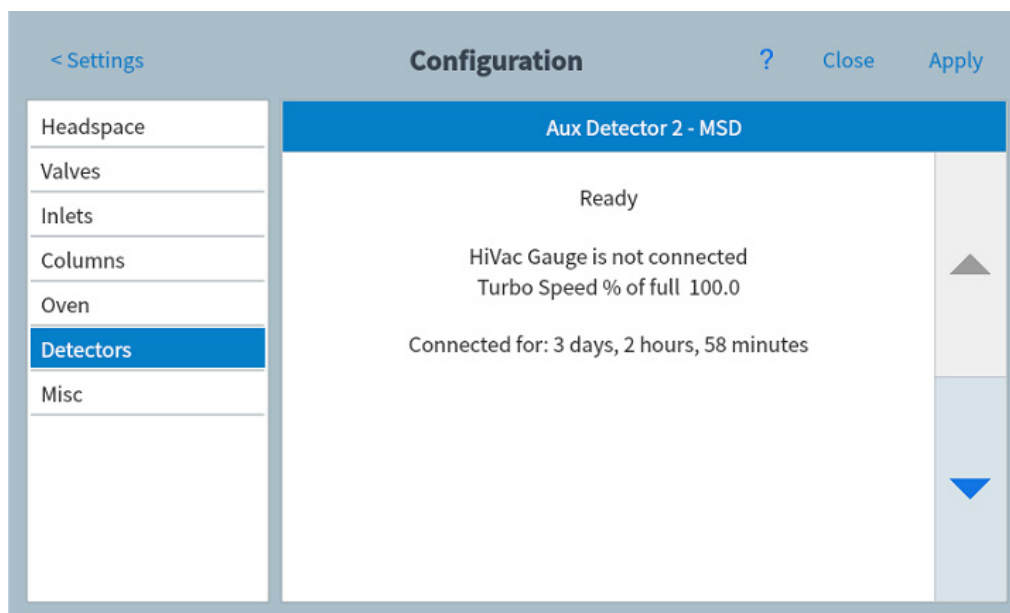

Figure 62 Detector MSD settings page
- 3 Press the **Detectors** device type from the list on the left side of the page. The properties for the selected device type appear on the right side of the page. See Figure 62.
- 3 Press the **Detectors** device type from the list on the left side of the page. The properties for the selected device type appear on the right side of the page. See Figure 62 on page 140.